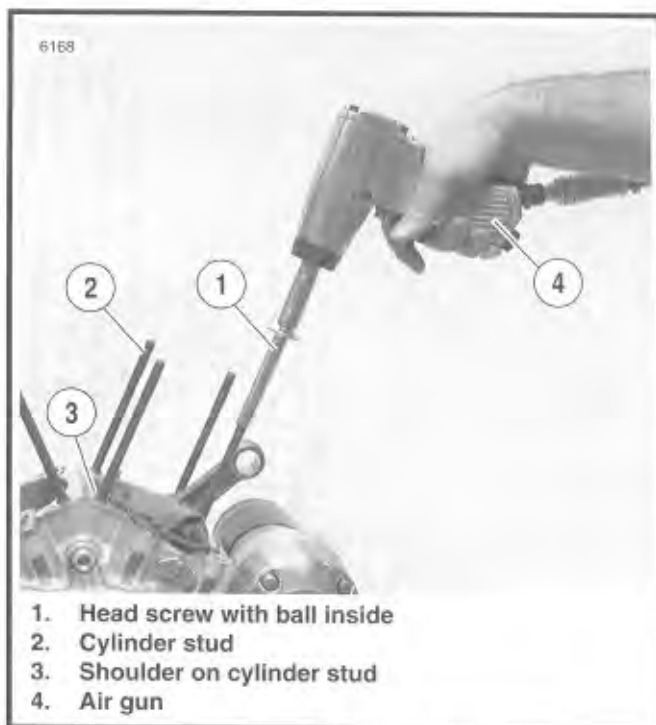

Figure 3-103. Cylinder Studs
14. See Figure 3-103. Install cylinder studs.
- b. Place a steel ball into a head screw (1).
- c. The cylinder studs (2) have a shoulder (3) at the lower end. Place the end of the stud without the shoulder into the head screw.
- d. Install the stud in the crankcase with the shoulder end down. Use an air gun (4) to drive the stud until the shoulder reaches the crankcase.